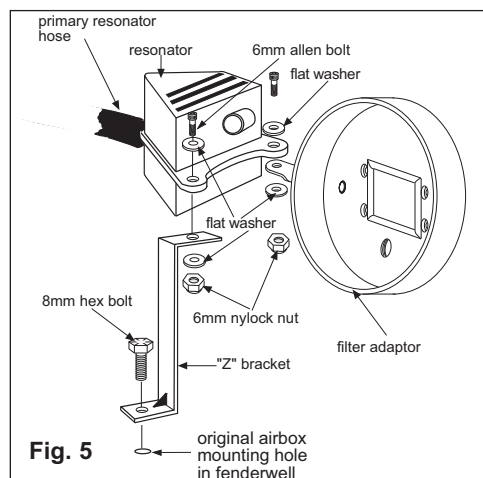

Fig. 5
- 21) Remove the resonator chamber, with the primary resonator hose attached, from the airbox and bolt the "Z" bracket to it using the supplied hardware, but do not tighten at this time. (see fig. 5)
- 22) Bolt the "Z" bracket/resonator chamber/hose assembly to the original airbox mounting hole closest to the front of the truck using the 8mm hex bolt supplied, then, line up the twist bracket with the resonator chamber & secure with the provided hardware. (see fig. 5) Position the resonator for best clearance and tighten the bolts.